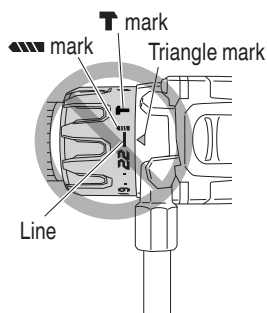

Fig. 17
- Do not use with the clutch dial number at "22" and the line at the middle of the drill mark "▨▨▨". Doing so may cause damage. (See Fig. 17)